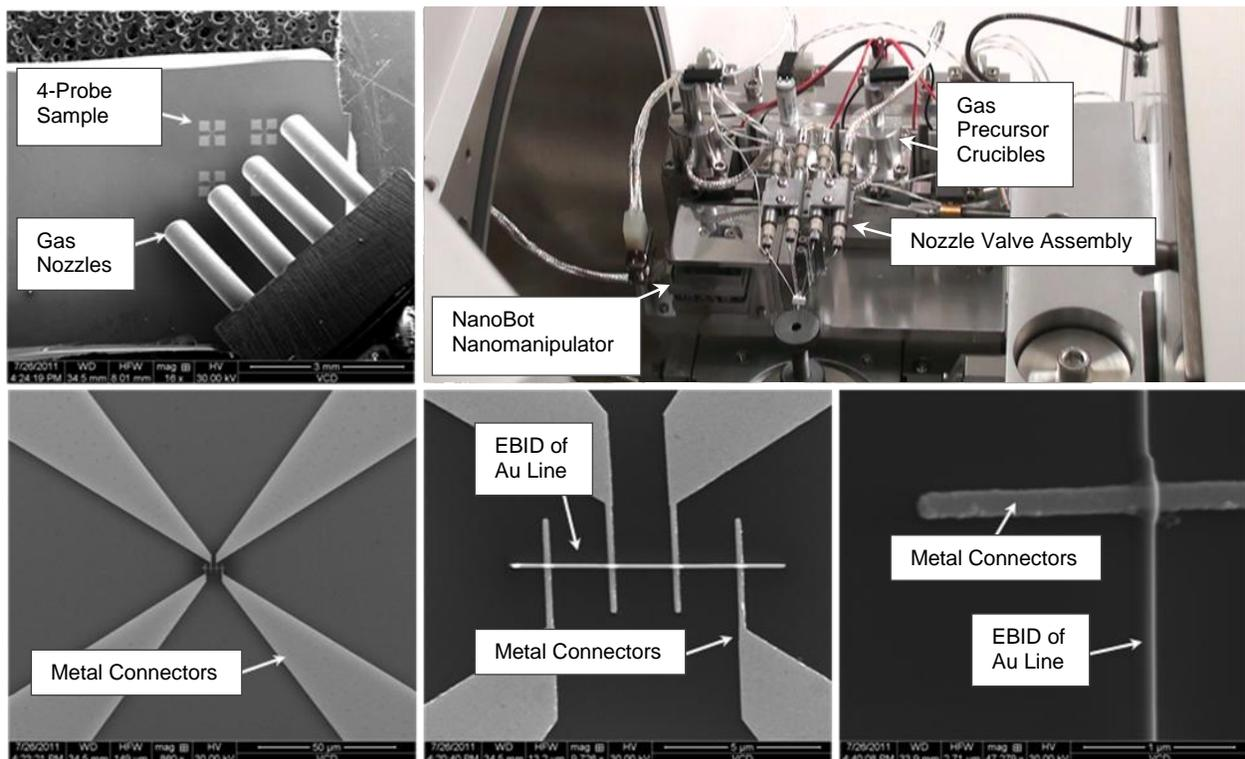

Figure 2 - Parallel Gas Injection System (PGIS) with Au Deposition Example
- Gas delivery nozzles (Figure 2) are attached to the NanoBot nanopositioner, which is located in-situ, within the SEM or FIB sample chamber.